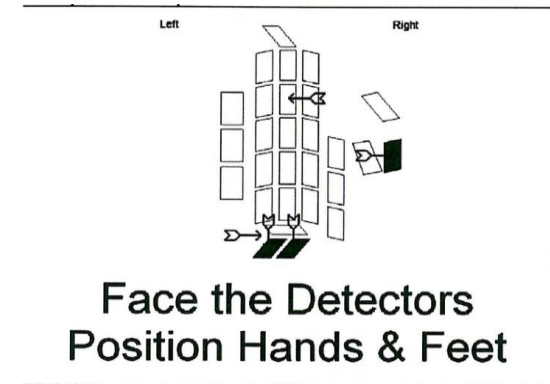

Figure 2
3. Follow the voice commands accompanying measurements. Commands are duplicated by text and picture on the display **5** (fig. 2) located at the top part of unit opposite to sensors.